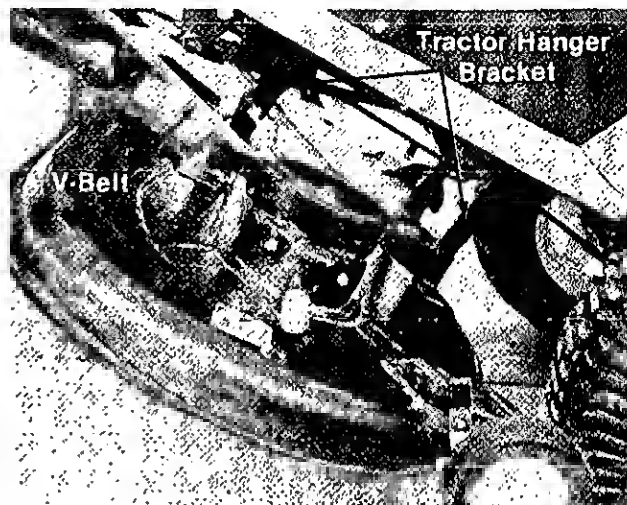

FIGURE 6.
7. Attach the four tractor hanger brackets to the deck with four 1/2" I.D. washers and four medium cotter hairpins. (See figure 6.)